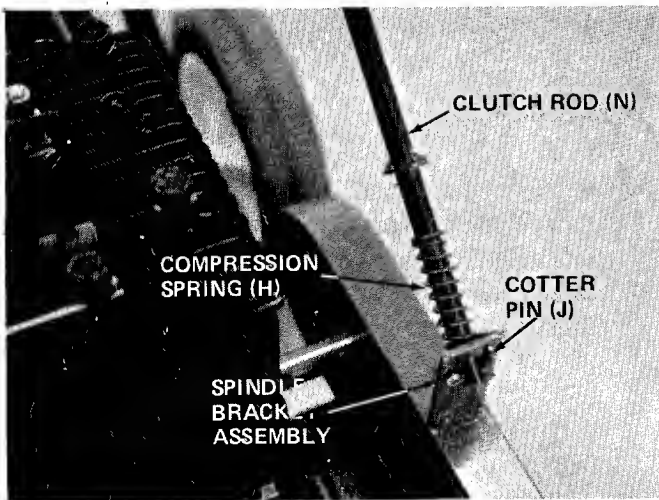

FIGURE 7.
8. Place compression spring (H) over straight end of clutch rod (N). Place end of rod in spindle bracket assembly and secure with cotter pin (J). See figure 7.